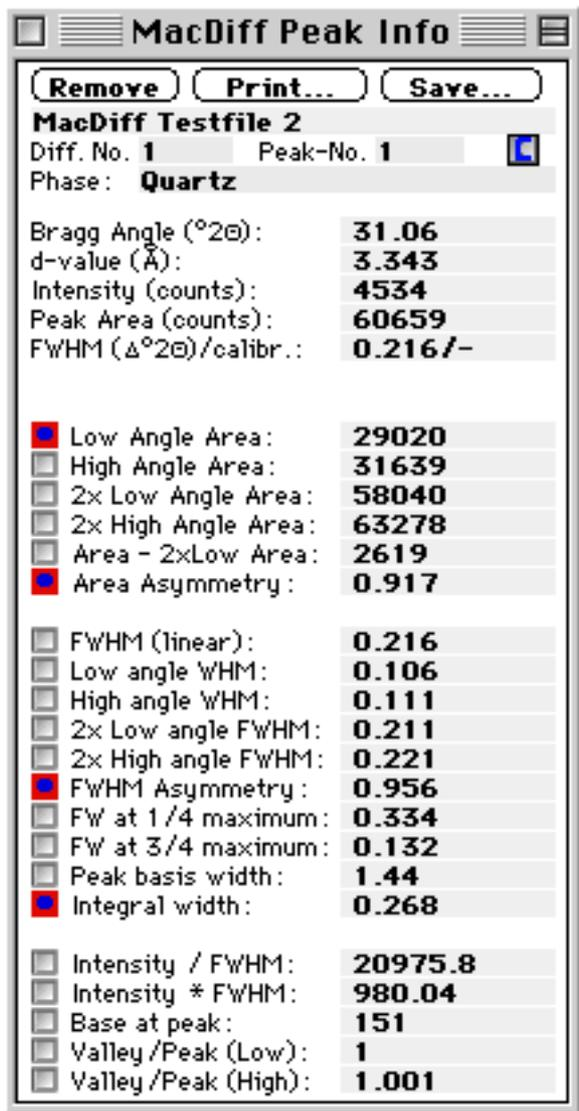

Fig. 39
**Peak Info...**  displays a list of some additional data about the peak during peak analysis (Fig. 39), such as e.g. left and right half of peak, asymmetry index, various peak widths, as peak base width, integral width, and background height, valley/peak ratio (e.g. for smectites), etc.